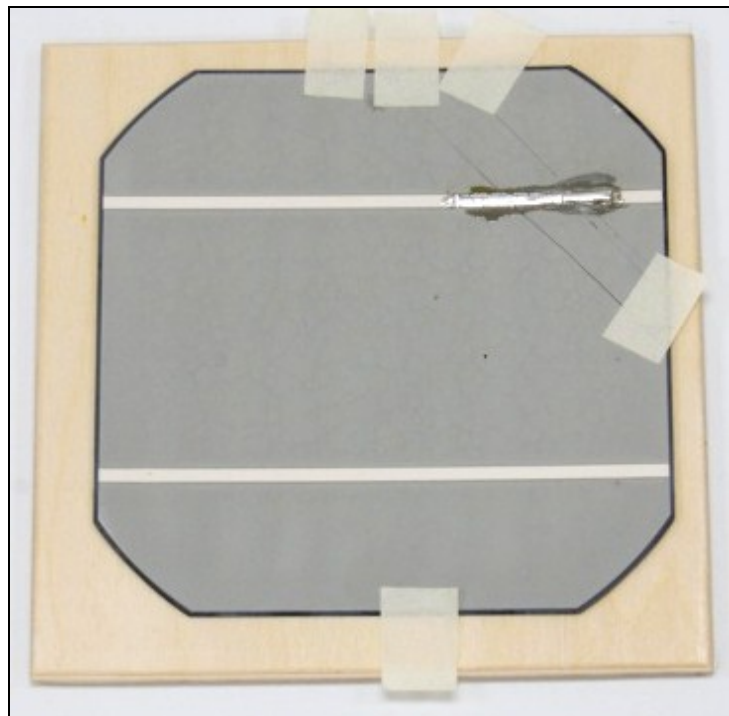

Figure 37
- ✓ Place a short piece of tabbing wire on the backside of the cell, spanning the break(s), as shown in Figure 37.